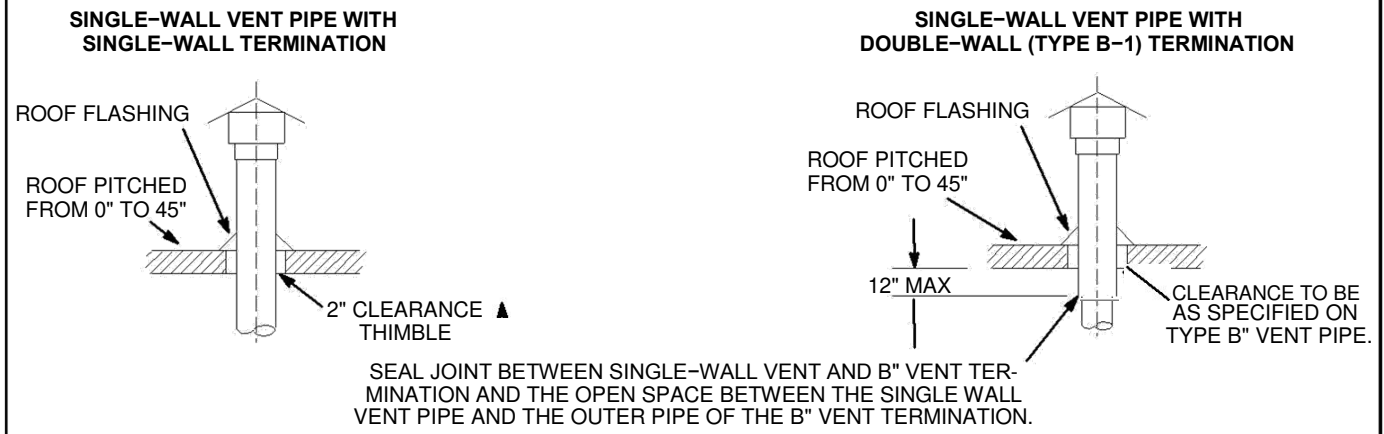

FIGURE 2
- 1 – These unit heaters are to be used with NFPA- or ANSI-approved chimneys or U.L.-listed type B-1 gas vents, or listed chimney lining systems for gas venting where applicable, as well as the modifications and limitations listed in figure 2. Seal single-wall vent material according to **General Recommendations and Requirements** section.